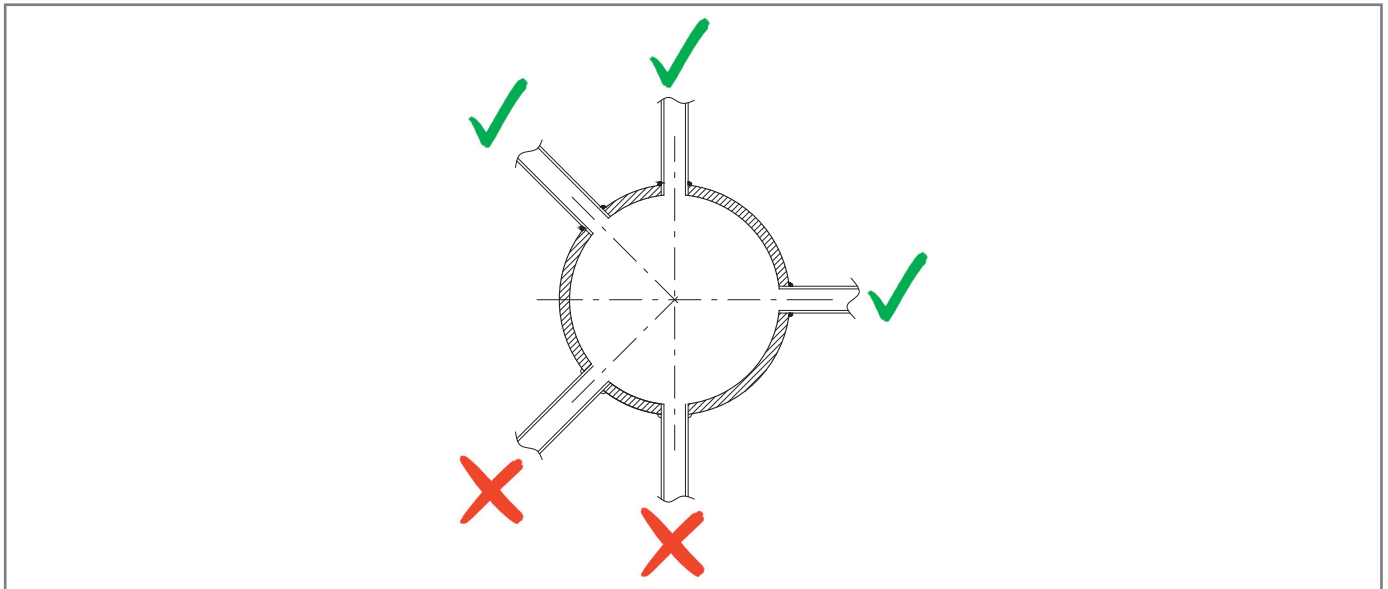

Fig. 6.22. Welded connections of the pneumatic connection
- the pneumatic connection fittings are always welded to the top or at most 90° on the axis of the pipe itself (refer to Fig. 6.22);